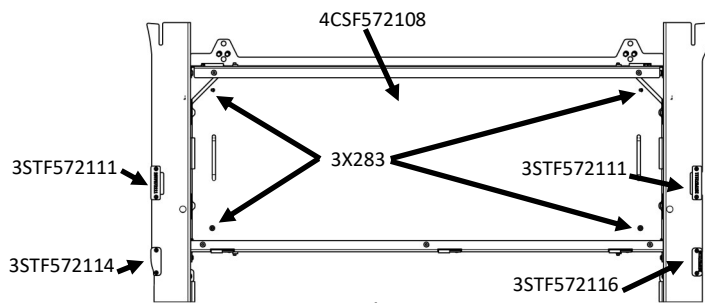

Figure 7
1. Locate the Electronics Tray [4CSF572108] and (4) [3X283] 1/4"-20x1" Button Head Cap Screws.
2. Mount Electronics Tray on top of Electronics floor Supports using button head cap screws (Figure 7).